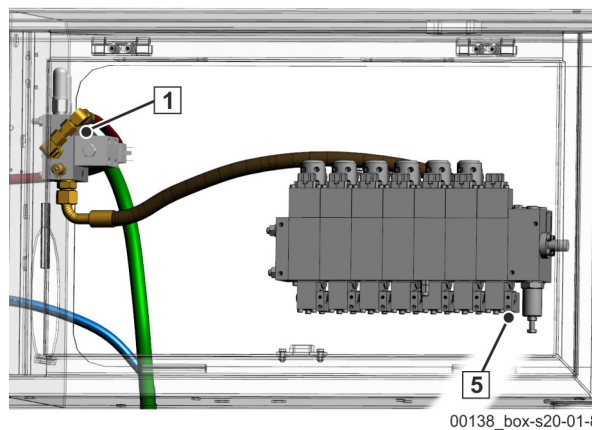
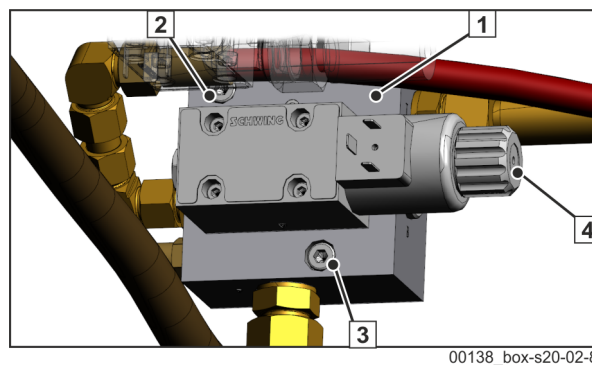

Fig. 529 S20 control cabinet
Fig. 530 Valve in control cabinet
- Unscrew valve block (1) (Fig. 529) in order to actuate valve (4) (Fig. 530).
- Screw in the control lever on control block (5) (Fig. 529) and hold down the control lever in order to activate the “Chamber valve” function.